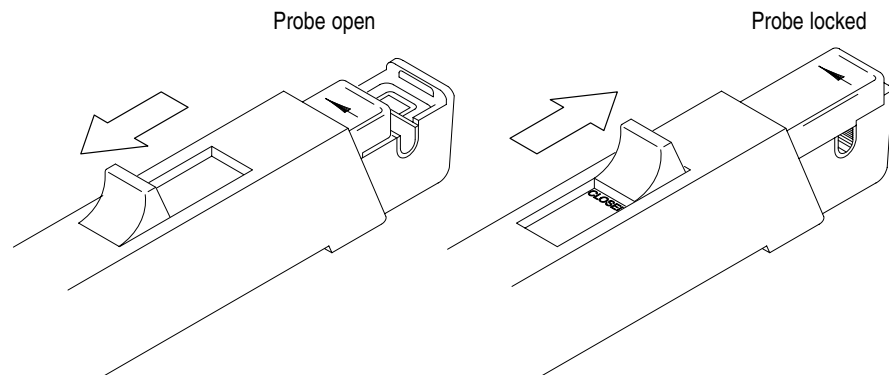

Figure 2: Operating the probe slide
Figure 2: Operating the probe slide	3
Figure 2 illustrates the slide operation of the probe. To open the probe, pull the slide back until the jaw is open. To lock the probe, push the slide forward until the detent snaps into place.
3. Lock the probe slide closed (see Figure 2).